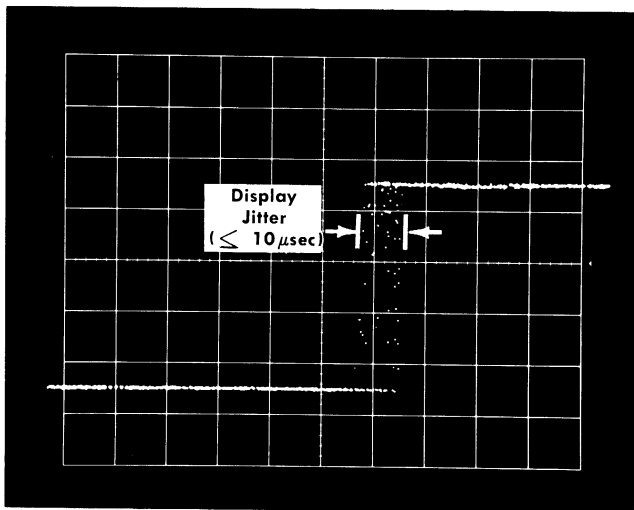

Fig. 5-36. Typical crt display for checking real-time display jitter on a 1-kc square wave.
- g. **Check** the horizontal thickness of the trace for the amount of time jitter. This should not exceed  $10 \mu\text{sec}$  (see Fig. 5-36).